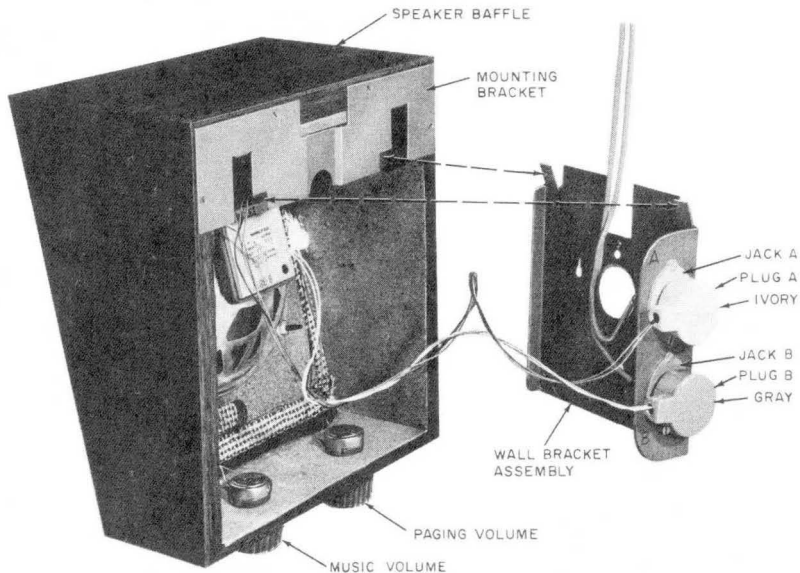

Fig. 29—109A Loudspeaker Set (Early Model)
- (1) Attach the wall bracket assembly of each loudspeaker directly to a suitable wall surface or device box (Fig. 29).